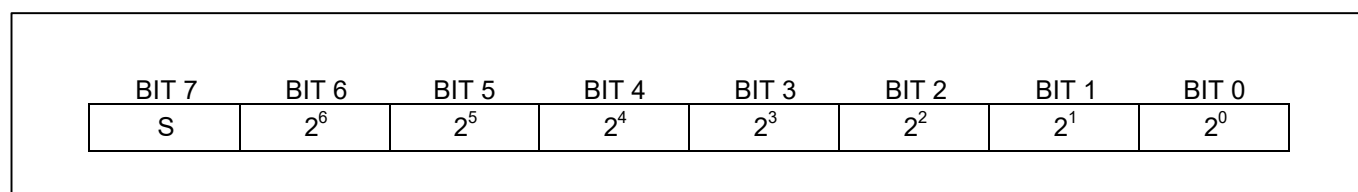

Figure 3. T_H and T_L Register Format
After the DS18B20 performs a temperature conversion, the temperature value is compared to the user defined two's complement alarm trigger values stored in the 1-byte T_H and T_L registers (see Figure 3). The sign bit (S) indicates if the value is positive or negative: for positive numbers $S = 0$ and for negative numbers $S = 1$. The T_H and T_L registers are nonvolatile (EEPROM) so they will retain data when the device is powered down. T_H and T_L can be accessed through bytes 2 and 3 of the scratchpad as explained in the Memory section.